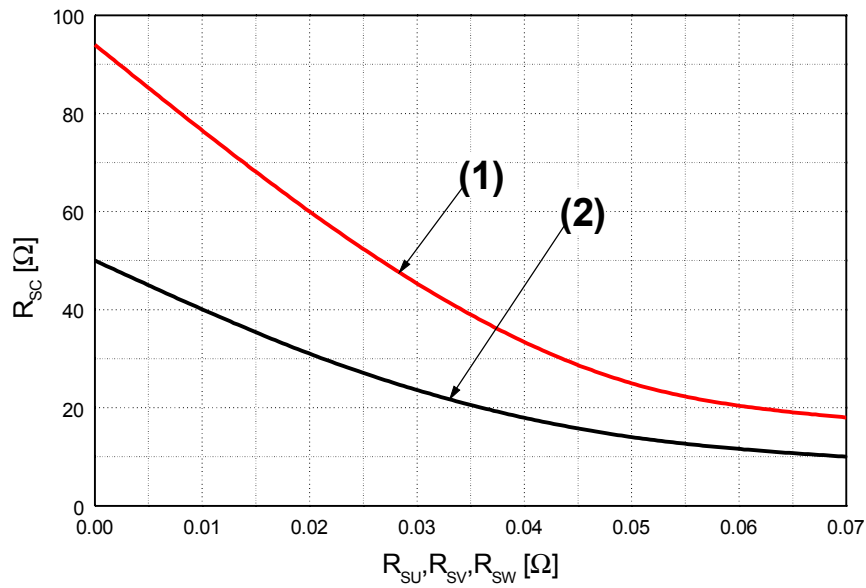

Fig. 7. R_{SC} Variation by change of Shunt Resistors (R_{SU} , R_{SV} , R_{SW}) for Short-Circuit Protection
- Short-circuit current protection is functioning only at the low-sides. It would be recommended that the value of the external sensing resistor (R_{SC}) should be selected around 50 Ω in order to make the SC trip-level of about 30A at the shunt resistors (R_{SU}, R_{SV}, R_{SW}) of 0Ω. For the detailed information about the relationship between the external sensing resistor (R_{SC}) and the shunt resistors (R_{SU}, R_{SV}, R_{SW}), please see Fig. 7.